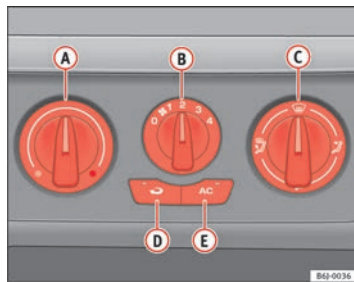

Fig. 100 Air conditioning controls on the dash panel
- Disconnect the cooling system using button ⇒ fig. 100 **AC** (the button light turns off).
When air recirculation mode is switched on (button \Rightarrow page 129, fig. 100  with warning lamp) strong odours in the outside air do not enter the vehicle interior, for example when passing through a tunnel or in a traffic jam.